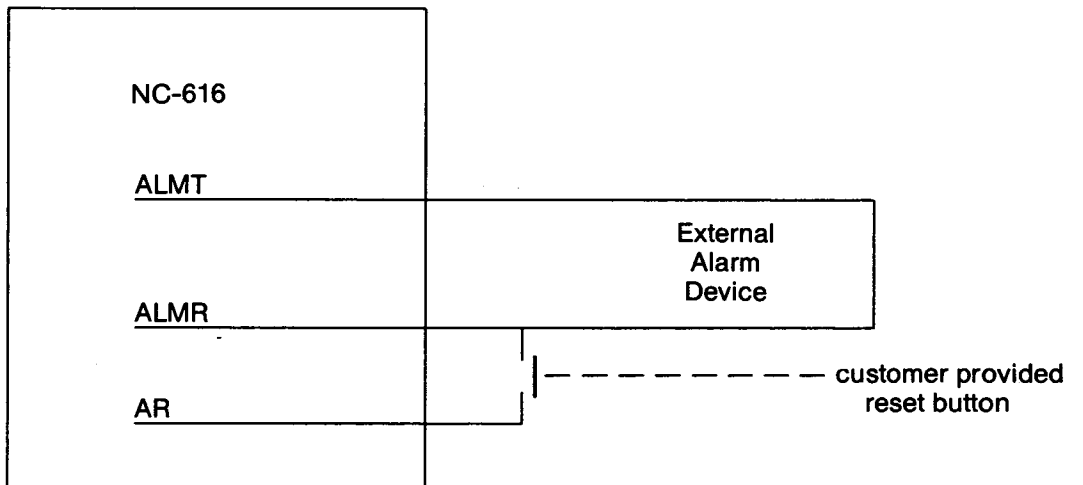

FIGURE 7. ALARM INSTALLATION
The NC-616 System may be used to transmit an alarm signal to each station (except intercom boxes) in the system. When activated by an external alarm system, a repeated warbling tone is transmitted to the station speakers. Leads from the external alarm are connected to the NC-616 at TB1 terminals ALMT and ALMR (Figure 3). A customer provided reset button must be installed across the ALMR and AR terminals (Figure 7) . In the event of an alarm condition, the system must be reset by first clearing the alarm condition on the external system and then depressing the reset button for three (3) seconds (see section 500.4 for programming Alarm States). The system is also designed to create a contact closure across terminals EAT and EAR (Figure 3). In the event of CCU failure or commercial power failure, customer provided alarms may be connected across these terminals.